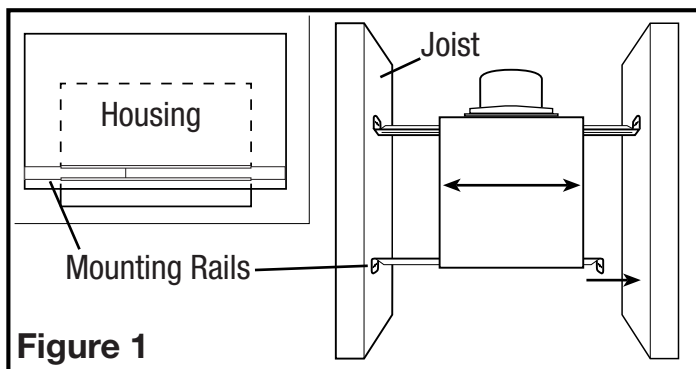
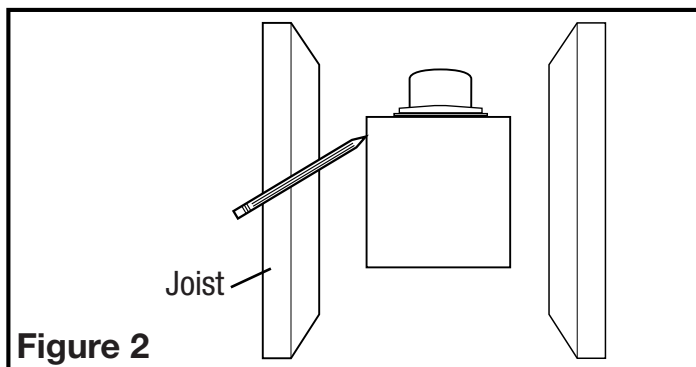

Figure 1
Figure 2
1. Install the rails into the mounting channel on the housing. Center the mounting channel in the slots on the housing, then from inside the housing tighten the mounting channel nuts so the channel is securely in place. Position the housing next to the joist. Line up housing so that it will be flush with the finished ceiling. Secure the ends of the rails with screws (not included) to the joists and slide the housing into the final position (Figure 1).
1. Set housing in position between the joist and trace an outline onto the ceiling material (Figure 2). Set housing aside and cut opening, being careful not to cut or damage any electrical or other hidden utilities. Install the rails into the mounting channel on the housing. Center the mounting channel in the slots on the housing, then from inside the housing tighten the mounting channel nuts so the channel is securely in place. Position the housing in the previously cut hole so that it is flush with the finished ceiling. Secure the ends of the rails to the joists (Figure 1).